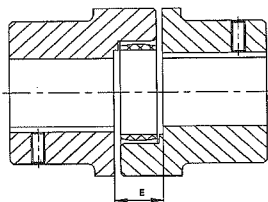

FIG 2: ASSEMBLY OF COUPLING
- Shift the power packs in axial direction until the distance dimension ϵ is achieved (see FIG 2).